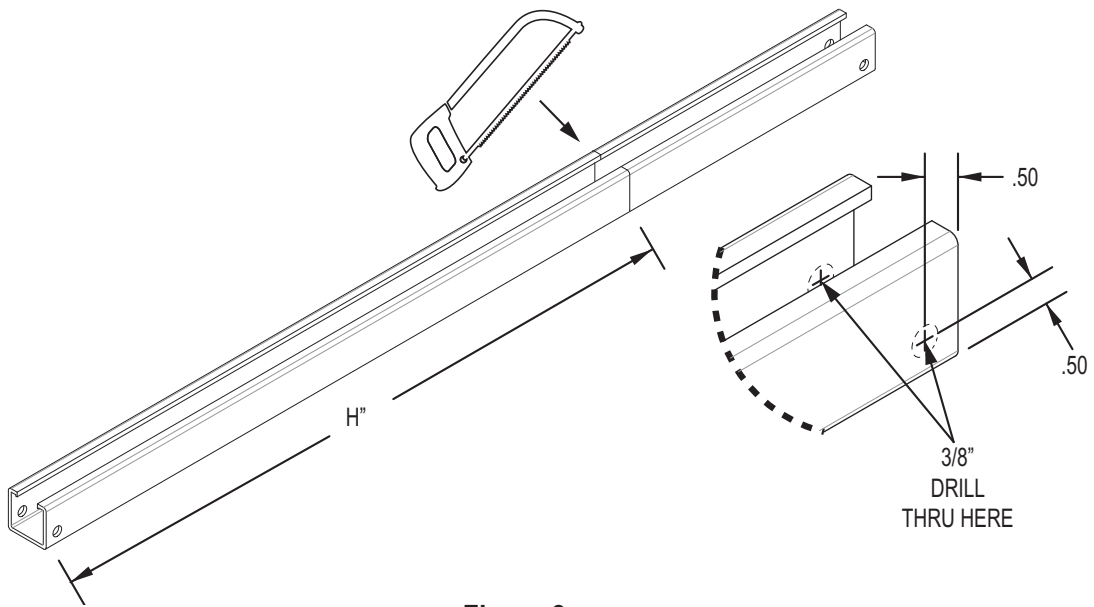

Figure 9.
7. Locate the Collector Mounting Struts included with your kit. This mounting strut will be need to be cut to length with a hack saw or other suitable tool to match the “H” length noted in Table 2 for the solar collector size being used and tilt angle that is desired. See Table 2 and Figure 9.
8. Drill a 3/8” hole through the “cut” end of the Collector Mounting Strut as depicted in Figure 9.